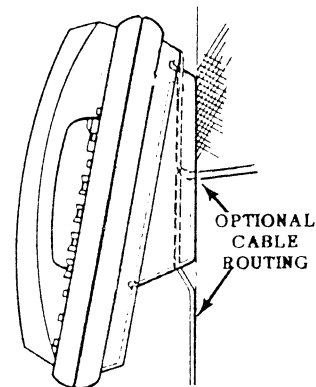

FIGURE 23
08.17 Route the tail cord through the holes in the base and secure the EKT (Figure 23). Test the sturdiness of the EKT mounting.